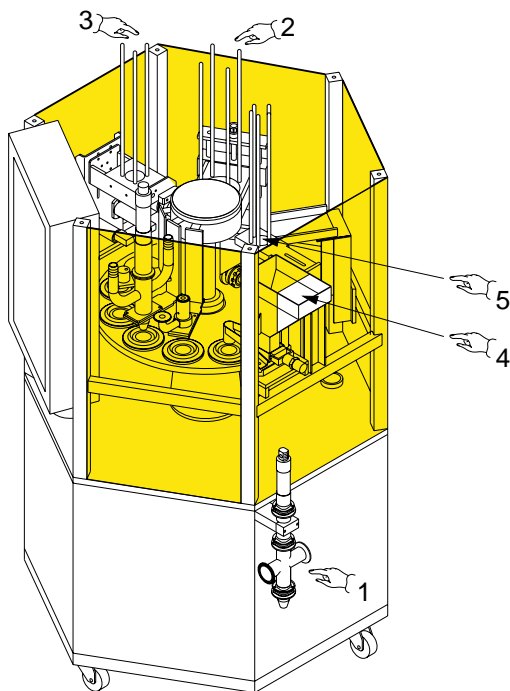

Fig. 6.1
- h. Connect the bypass valves to the freezers (*Pos. 1, Fig. 6.1*).
- j. The containers have been correctly positioned in the feed magazines (*Pos. 1/2, Fig. 6.1*).
- k. The granule hopper has been filled correctly (*Pos. 4, Fig. 6.1*).
- l. The lids have been correctly positioned in the lid feed magazines (*Pos. 5, Fig. 6.1*).